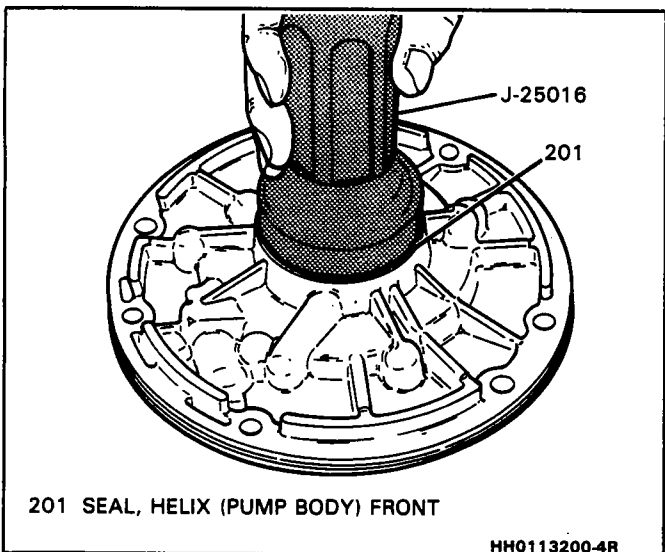

Figure 103 Installing Front Helix Seal
**Assemble (Figures 103 and 104)**